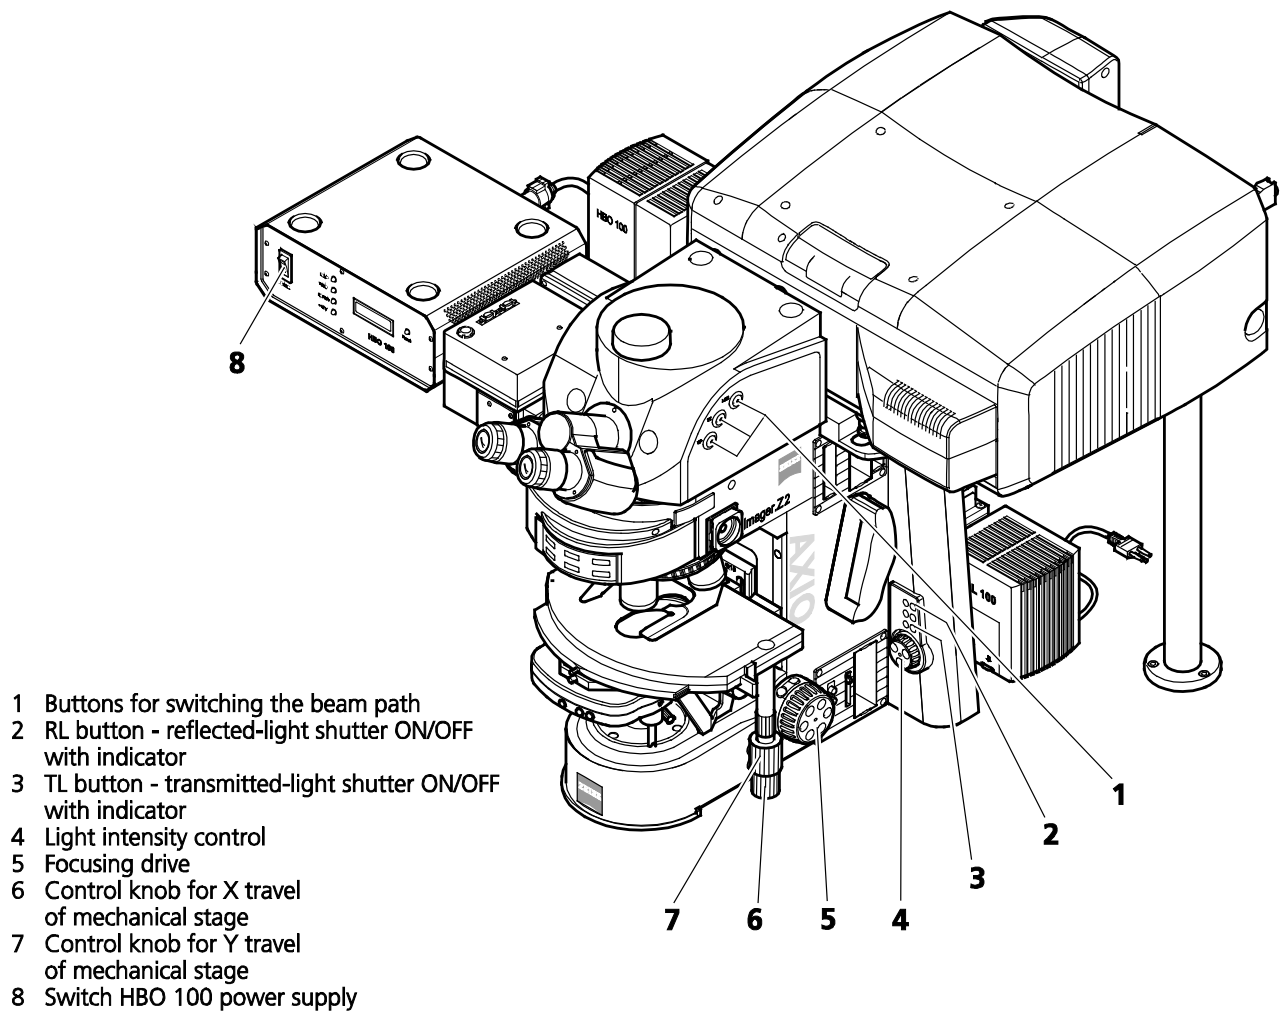

Fig. 61 LSM 710 / LSM 780 with Axio Imager.Z2
(1) Microscope settings on Axio Imager for transmitted-light observation
- Pull out the push rod (Fig. 61/1) to switch the beam path of the tube in LSM position.
- Control the brightness of the halogen lamp with the potentiometer (Fig. 61/4) or the **Intensity %** slider in the **Ocular** panel.
- Use the focusing drive (Fig. 61/5) to focus the required object plane.
- Select specimen detail by moving the stage in X and Y using the XY stage fine motion control (Fig. 61/6 and 7).
(2) Microscope settings on Axio Imager for reflected-light observation (Epi-fluorescence)
- Turn on the HBO 100 W or X-Cite power supply with switch (Fig. 61/8)